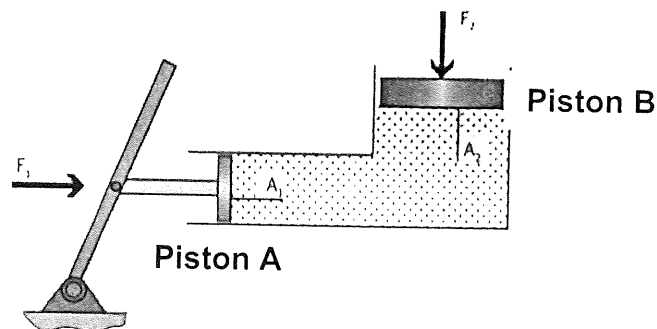

Figure 4
- e) A vehicle is to be lifted by a hydraulic jack as in Figure 4. Its mass is 1500 kg. The diameter of Piston A, A_A is 0.01 m^2 and the force applied, F_A is 120 N. Determine the area of Piston B, A_B . (7 marks)